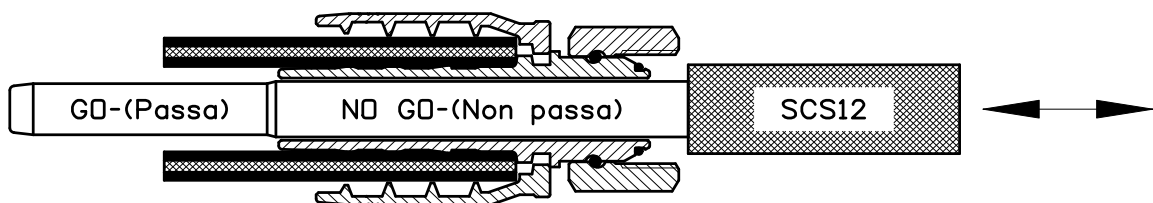

Figure 2
- 4- Place the ferrule fully onto the hose. Push the insert fully into the hose. Select the "COLLAPSE CONTROL MANDREL" for size and series of TIEFFE inserts. Insert the MANDREL into the insert bore. The "NO GO" part of the MANDREL must fully go into the insert bore. (See Figure 2.) Remove the MANDREL.